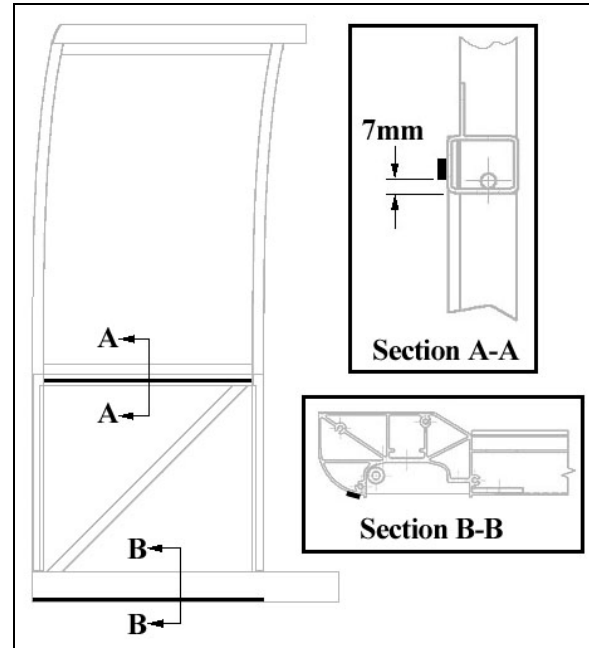

FIGURE 41: SIDE PANEL INSTALLATION – DOUBLE FACE ADHESIVE TAPE APPLICATION ON THE SLIDE-OUT STRUCTURE
2. Refer to FIGURE 41 for 1/16x1/4 double face adhesive tape location on structure;